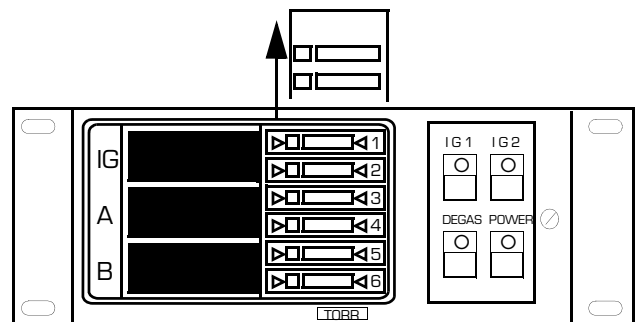

Figure 2-5 Control Unit Front Panel Showing Removal of Units of Measure Label Card
2. To change the units of measure label, open the door and lift the label card from its slot in the top of the front panel. See Figure 2-5. Units of measure labels are included in the mounting hardware kit.